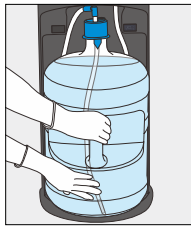
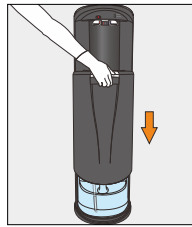

Figure 43
Figure 44
22. Slide bottle into cabinet and close the door (Figure 43 to Figure 44) (slide door downwards to close)